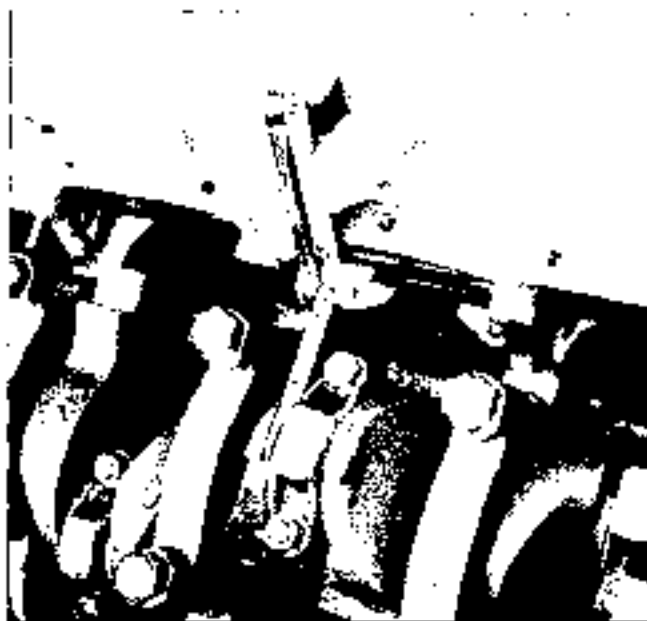

Fig. 6-50 Checking Connecting Rod Side Clearance
5. Check connecting rod end clearance between connecting rod cap and side of crankpin (Fig. 6-50). Clearance should be .003" - .014". If clearance is more than .014", replace connecting rod.